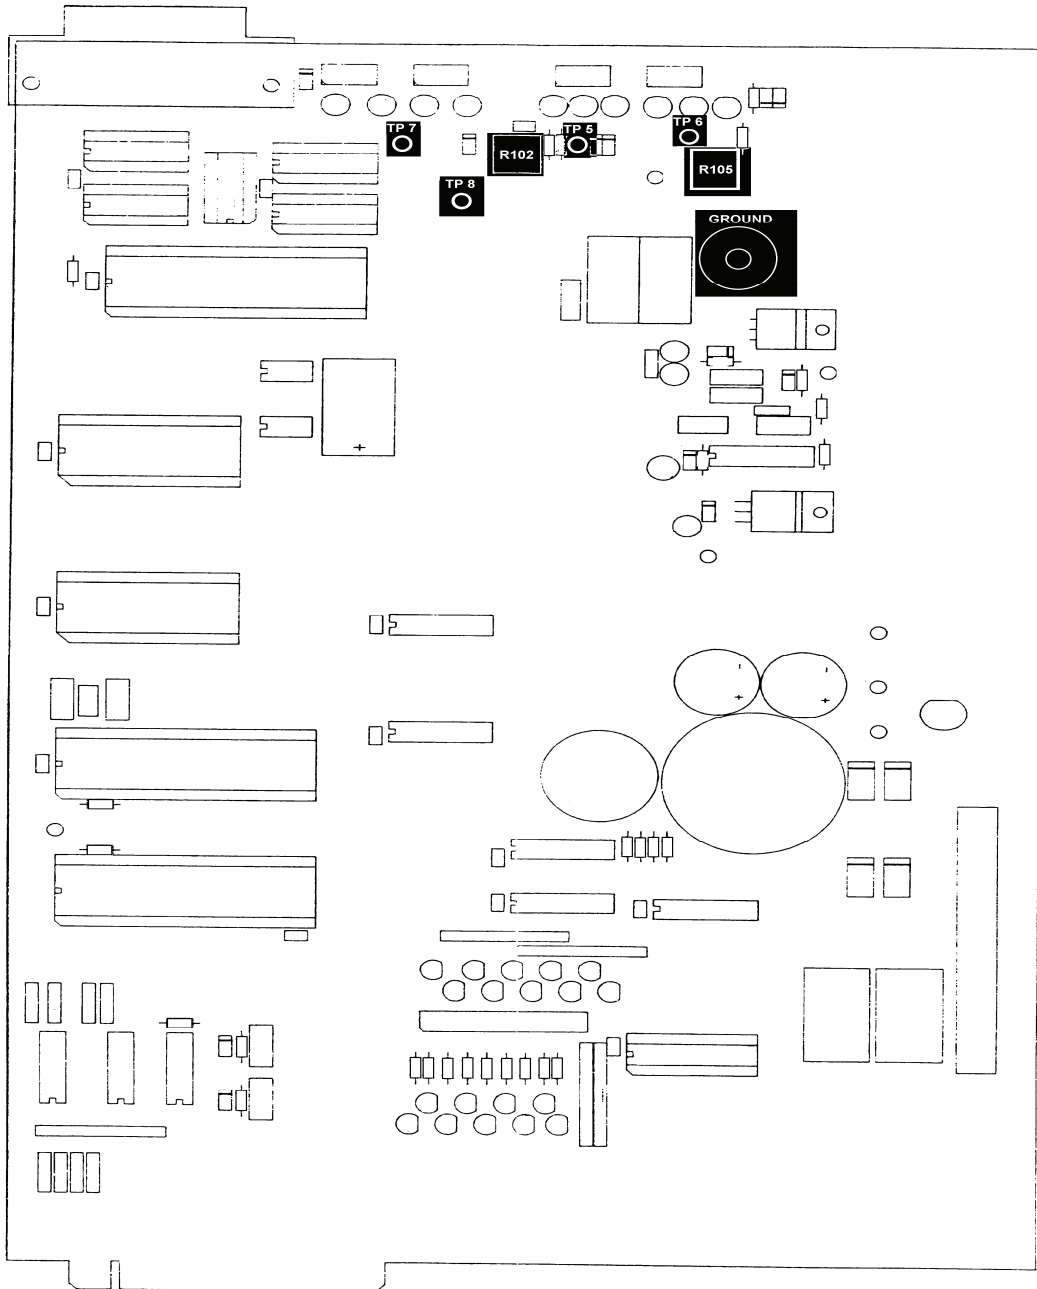

Figure 2. Microprocessor card.
**q.** While switching the **INPUT GAIN(db) ∇ Δ** controls between **20** and **00**, adjust R105 (fig. 2) for no change  $\pm 1$  mVdc.